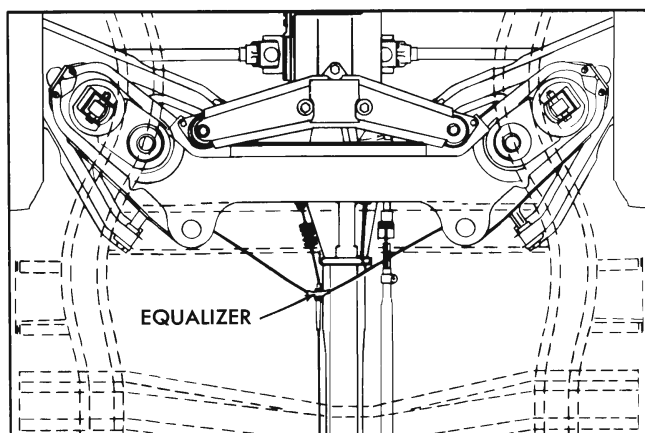

Fig. 2-5 Parking Brake Cable Equalizer
3. Unhook parking brake cable at equalizer (Fig. 2-5).